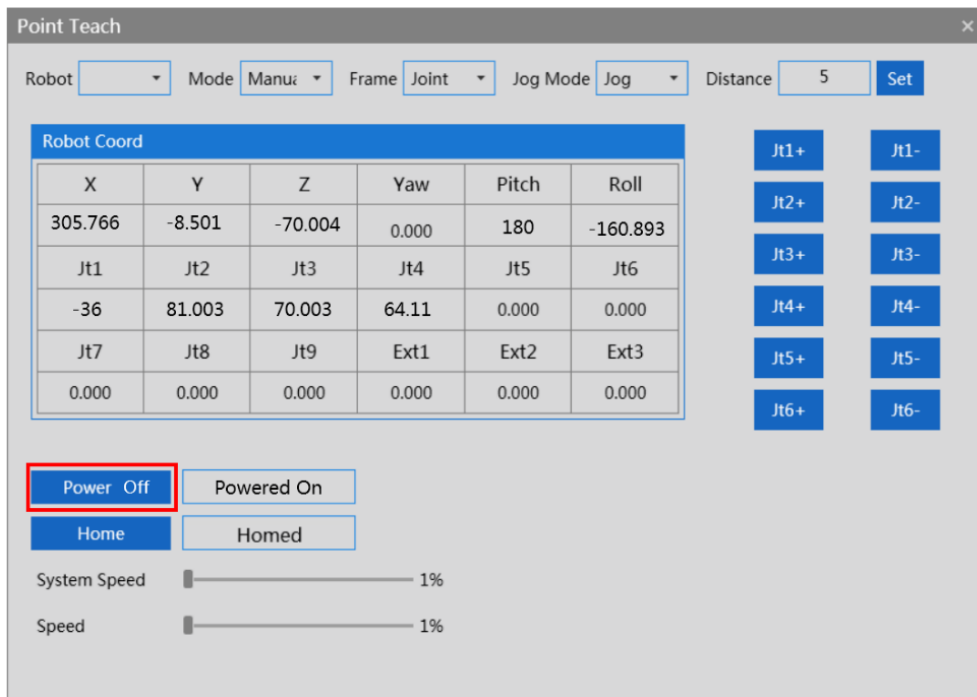

Figure 6-29 Interface of teaching in powered-on state
Step 1 Click the OFF button on the jog teach interface as shown in Figure 6-29.